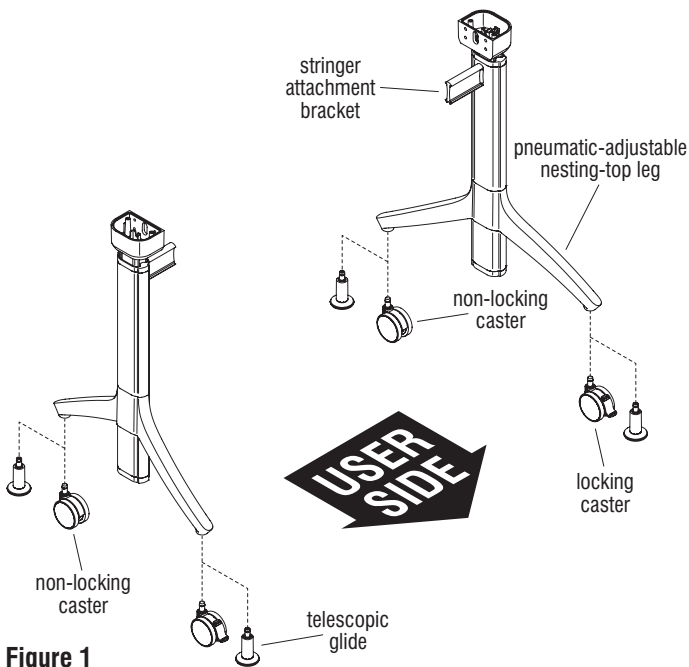

Figure 1
with stringer attachment brackets facing each other as illustrated. Orient the legs so the stringer attachment brackets on each leg post are inline to each other, then identify the side of the leg pair that has a larger gap between the feet. The side with the larger gap is the user side and eventually will be placed at the user side of the tabletop (Figure 1 & Detail A).
- Locate the locking and non-locking casters. Locking casters are to be installed to the front, user side of each leg, and non-locking casters are to be installed to the rear of each leg. Press in fully to install the stem of one locking and one non-locking caster into the caster mounting holes at the underside of each foot (Figure 1).
- Press in fully to install the stem of two telescopic glides into the mounting holes at the underside of each foot (Figure 1).